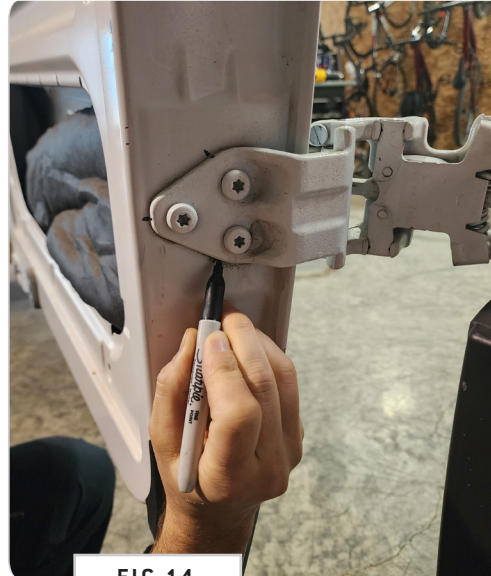

FIG 14
**5.1 Bottom Hinge Alignment Marks:** Begin by marking alignment points at the bottom hinge of the driver-side door (FIG 14).